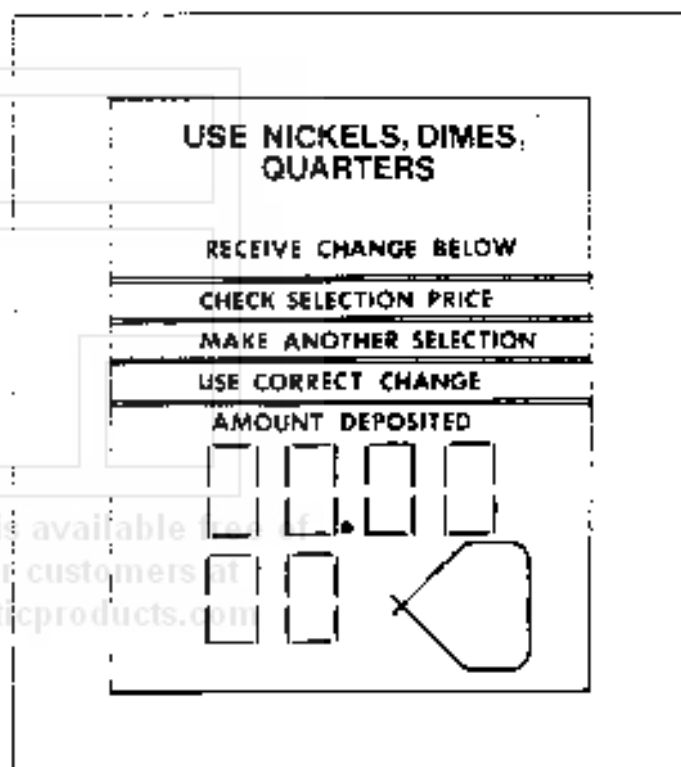

Figure 14.
B. Press button "1" on the selection panel and the display will show "00.00" (Figure 14). This is the price display and can be incremented up by pressing button "1" and down by pressing button "12". Increments are 5¢. **CAUTION:** Any selection programmed at "00.00" will free vend.